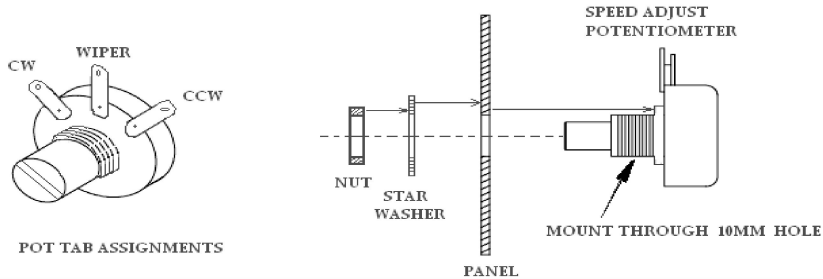

Figure5
1. Wiring and installation for potentiometer-type speed regulator and controller (please select potentiometer-type controller) (see Figure 5 for installment).